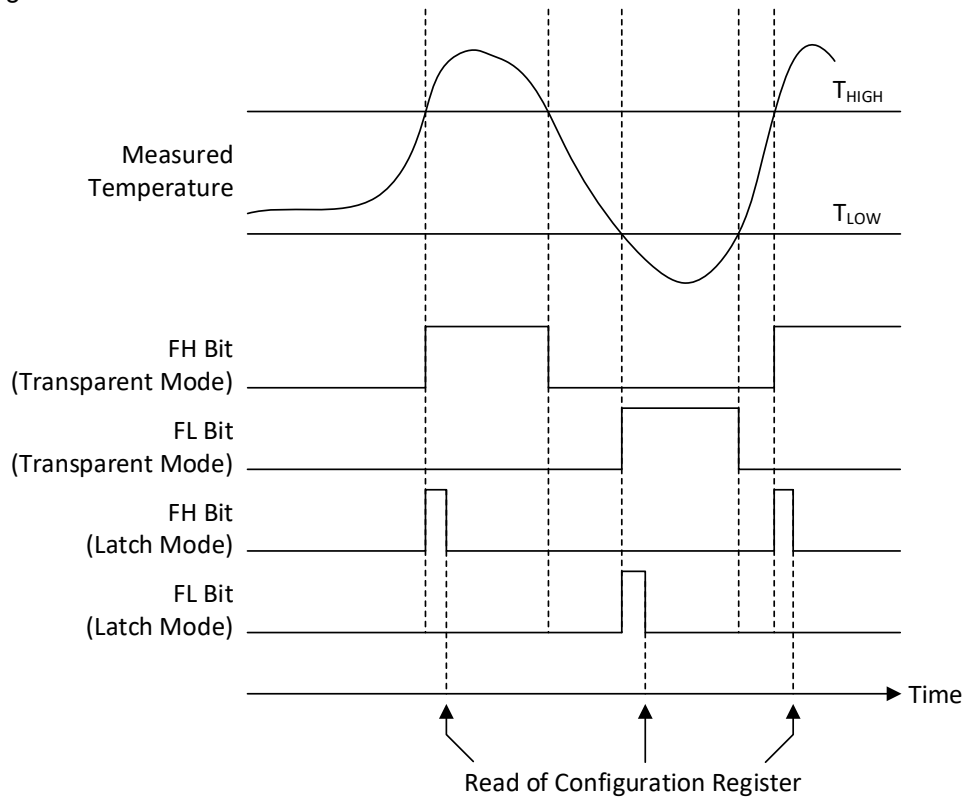

图 7-2. Temperature Flag Functional Diagram
The TMP144 contains a temperature alert function that monitors the device temperature and compares the result to the values stored in the temperature limit registers to determine if the device temperature is within these set limits. As shown in 图 7-2, if the result of the temperature conversion is greater than the value in the temperature high limit register, the flag-high bit (FH) in the configuration register is set to '1'. If the result of the temperature conversion register is less than the value in the temperature low limit register, the flag-low (FL) in the